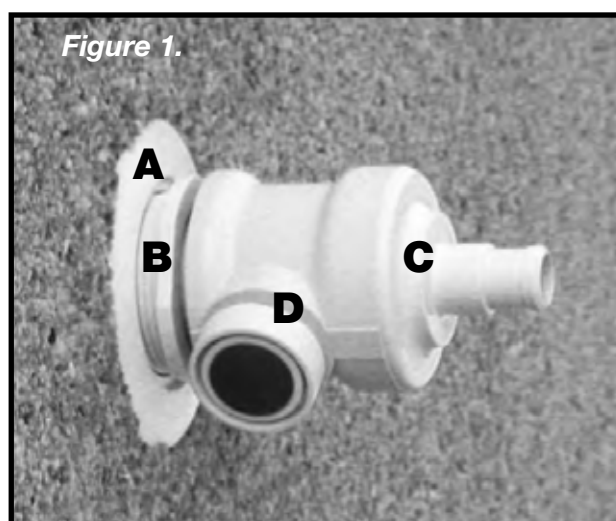

Figure 1.
Once the wall adaptor is secure you can now twist lock and unlock to remove wall fitting with ease from the wall adaptor, which stays firmly screwed in place. See figure 1.
- 2) Attach the wall fitting to the pool wall, as shown in Figure 1 on previous page. Feed hose is factory-fitted to the wall fitting.